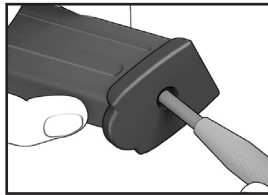

Figure 32
- Using a blunt, pointed instrument, depress the locking detent located in the floorplate and hold it there (see Figure 32).